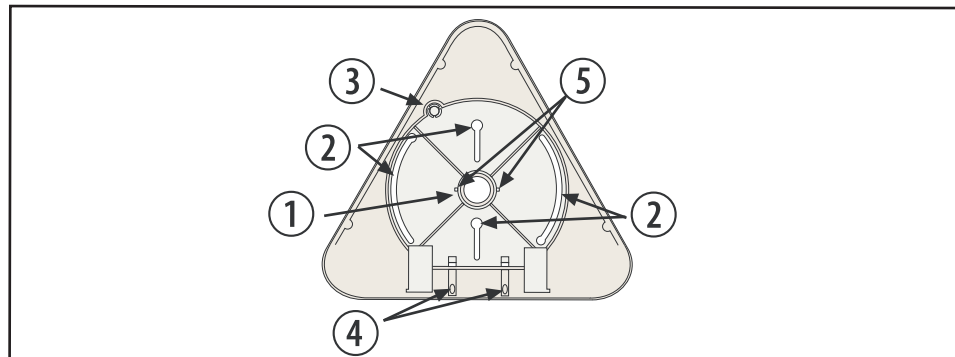

Figure 3.3: Mounting Base
Using the curved mounting slots allows the detector to be rotated up to 60° to obtain the desired coverage. Refer to Figure 3.3 Mounting Base callout (2).